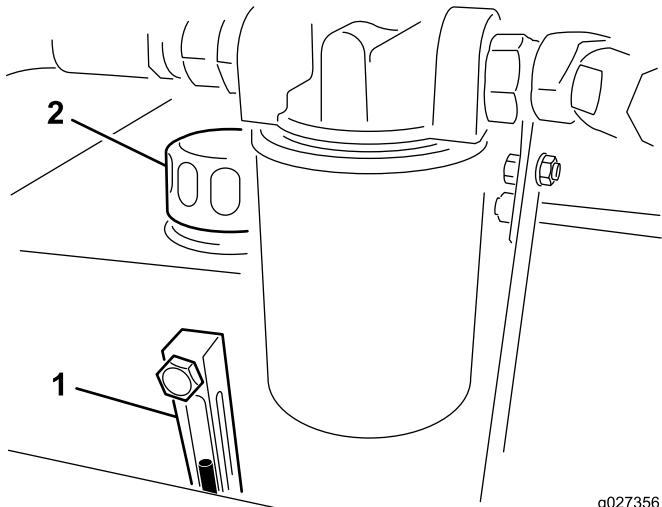

Figure 6
2. Check the level of the fluid by viewing the sight gauge (Figure 6). If the fluid is up to the middle of the gauge, the fluid level is sufficient.